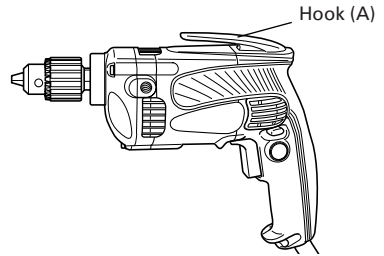

Fig. 13
**9. Attaching the hook. (Optional accessory) (Fig. 13)**